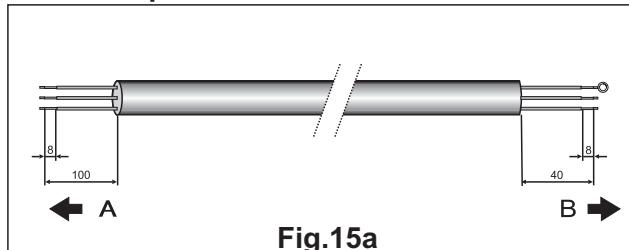

Fig.15a
2. Prepare the cable ends for the power input and for the cables between outdoor and indoor units as shown in figure 15a and 15b respectively.